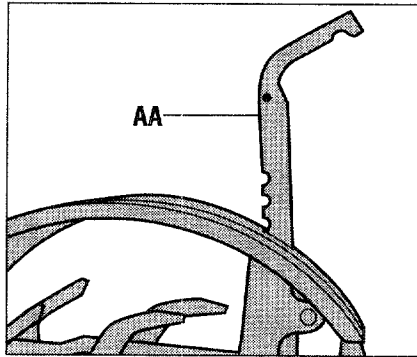

Fig. 2-8: Adjust Depth Regulator Lever.
1. With the tiller on level ground, pull the Depth Regulator Lever (AA, Fig. 2-8) back and then all the way up until the lowest notch in the lever is engaged.
2. With the tiller on level ground, pull the Depth Regulator Lever (AA, Fig. 2-8) back and then all the way up until the lowest notch in the lever is engaged.